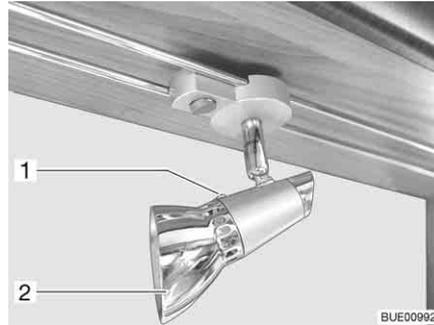

Fig. 240 Halogen spotlight (movable)
- Loosen the fixing screw (Fig. 240,1).
- Remove the lamp shade (Fig. 240,2).